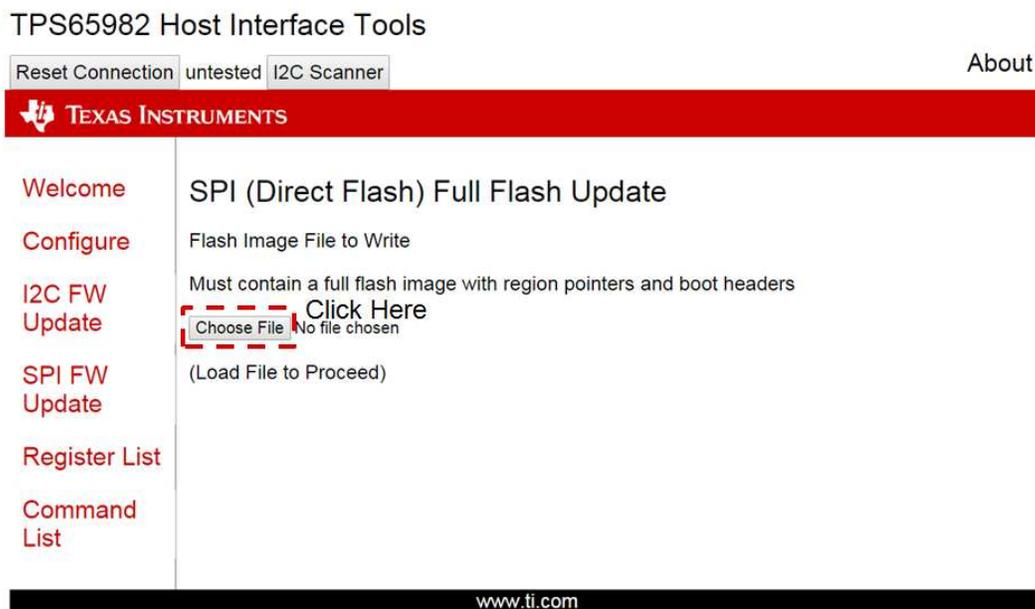

Figure 13. SPI Firmware Update – Choose File
Step 6. Choose the TPS65981EVM firmware image to load by clicking on the *Choose File* button (see Figure 13). Select the appropriate EVM image (2 region binary file) in the window and verify that it is 191KB in size. Click *Open* to load the file to the TPS6598x Utilities GUI.